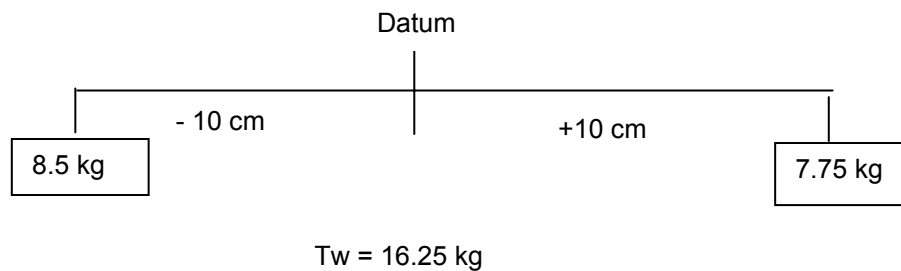

Fig 1.3
STEP 1 Draw a simple not to scale line diagram, see Fig 1.3 below.
Example Using the example from Fig 1.3, if 1.7 kg is added to the left arm then:
Example Using the same example Fig 1.3 but removing the 1.7 kg from the right arm: